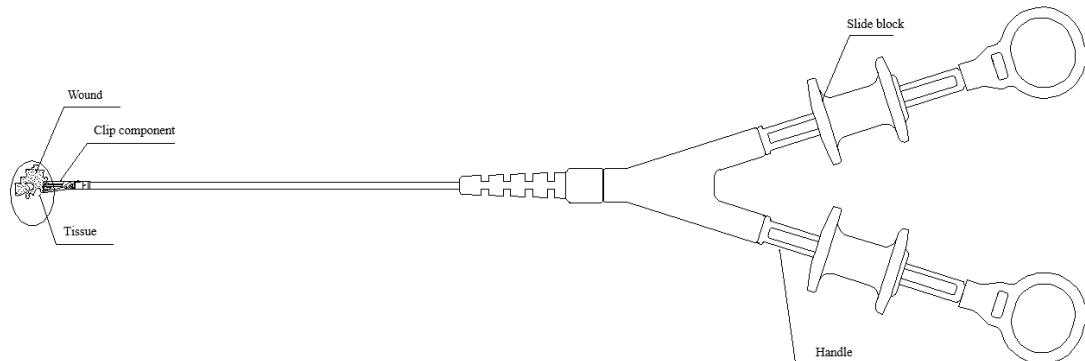

Fig 5 Traction tissue
5. Move the wound tissue to the other side of the wound through the endoscope. At this time, the handle that controls the clip's closure remains closed. (As shown in Fig 5)